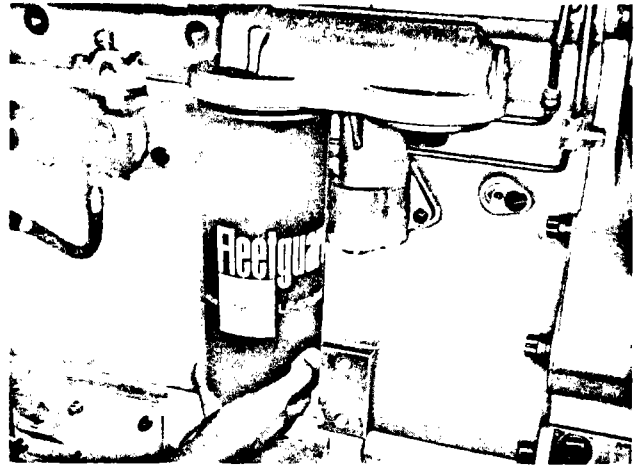

Fig. 2-15, (K11951). Removing "spin-on" lubricating oil filter — KT(A)-1150 Engine
1. Unscrew combination case and elements, Fig. 2-15, discard elements.